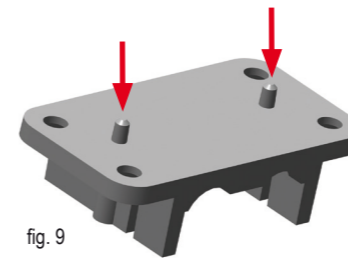

fig. 9
a) Put the drilling template under the switch, depending on the chosen assembly position "right" or "left". Now mark the two positions ③ to the table (f.e. pierce trough with sharp pin or pen) and drill these holes with a diameter of 2,1 mm to (max.) 3 mm completely through (base-plate pin diameter is 2,0 mm). These holes now act as a guiding for the base-plate pins (fig. 9).